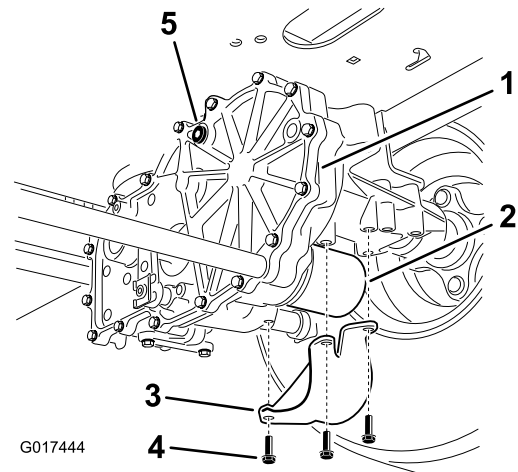

Figure 69
2. Locate the filter and guards on each transaxle-drive system (Figure 69).
3. Remove three screws securing the filter guard and guard (Figure 69).